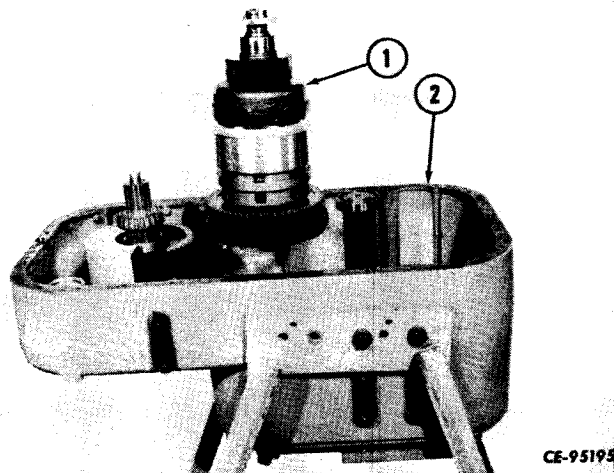

Figure 4-30
Attach special lifting tool (refer to "SPECIAL TOOLS") to first and third clutch pack (1, Fig. 4-30) and remove from transmission (2). For overhaul procedure refer to "CLUTCH PACKS."